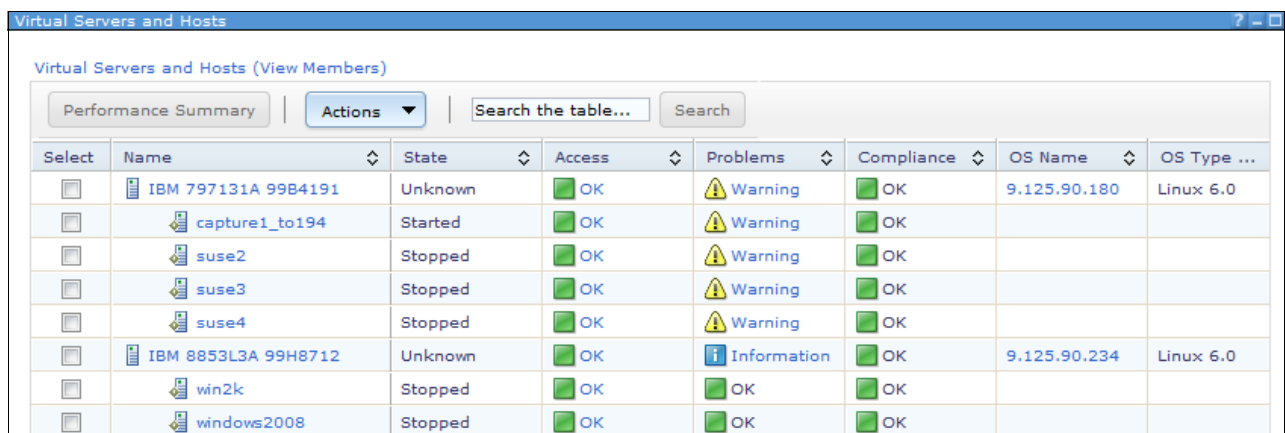

Figure 3-78 Virtual Servers and Hosts window
- Click the **Virtual Servers and Hosts** tab. The source and target servers that you discovered are listed, as shown in Figure 3-78.